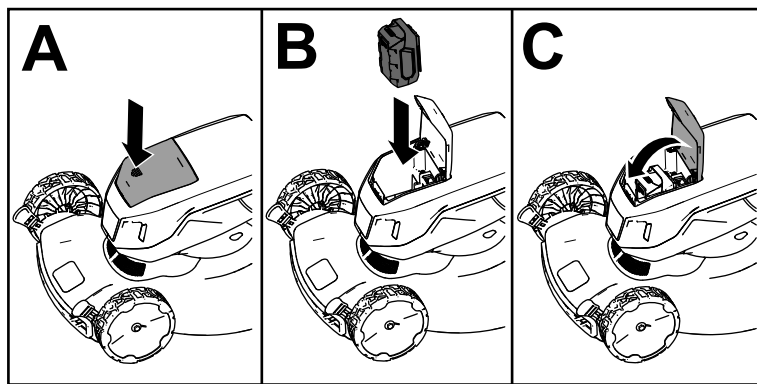

Figure 8
2. Press down on the battery-compartment lid to open it (A of Figure 8).
3. Line up the cavity in the battery pack with the tongue on the machine and slide the battery pack into the compartment until it locks into place (B of Figure 8).
4. Press down on the battery-compartment lid until it clicks into place (C of Figure 8).